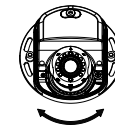
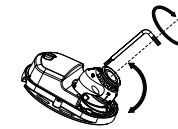

Figure 2-2
Figure 2-3
1. Aim the camera lens in the desired direction as shown in Figure 2-2 and Figure 2-3.
Note Lens adjustment can be divided into left/right and up/down adjustment. Left/right adjustment can be done manually as shown in Figure 2-2. For up/down adjustment, you must insert the L-wrench into the hole on the lens and turn it as
shown in Figure 2-3.